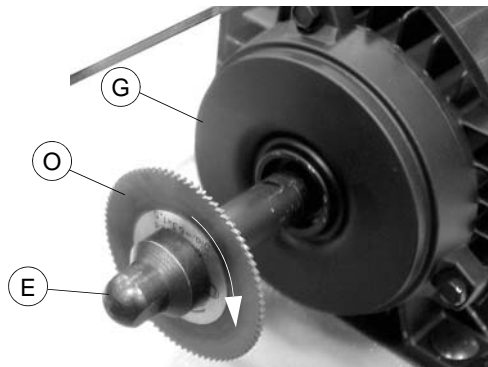

Fig. 16
- 3) loosen the (E) nut by turning it clockwise (fig.16).
- 4) remove the (E) nut, the (O) cutter and clean the shaft.
- 5) insert the new cutter, **check its direction** of rotation and screw in the (E) nut anticlockwise.